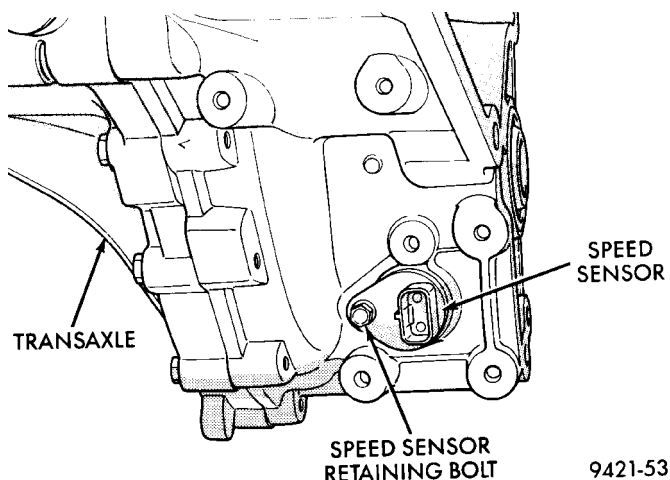

Fig. 18 Speed Sensor Retaining Bolt
- (3) Remove speed sensor retaining bolt (Fig. 18).